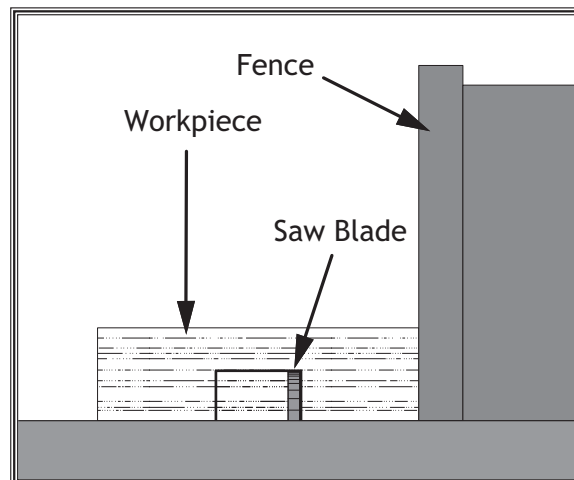

Figure 49. Single-blade dado first cut.
6. If dadoing the length of a workpiece, align the blade to cut one of the dado sides as shown in **Figure 49**.